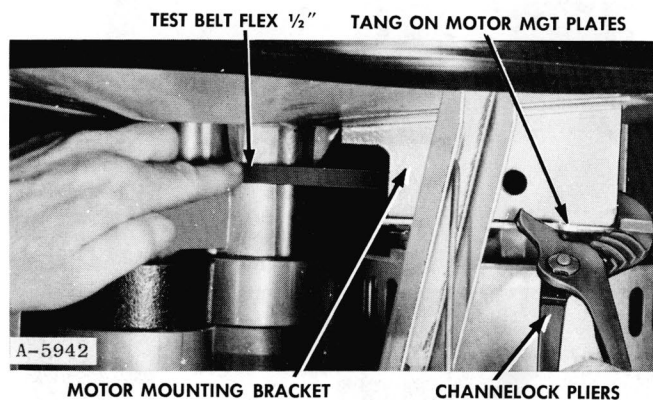

Figure 98
1. After belt is in place, see Figure 98 for the tightening procedure.